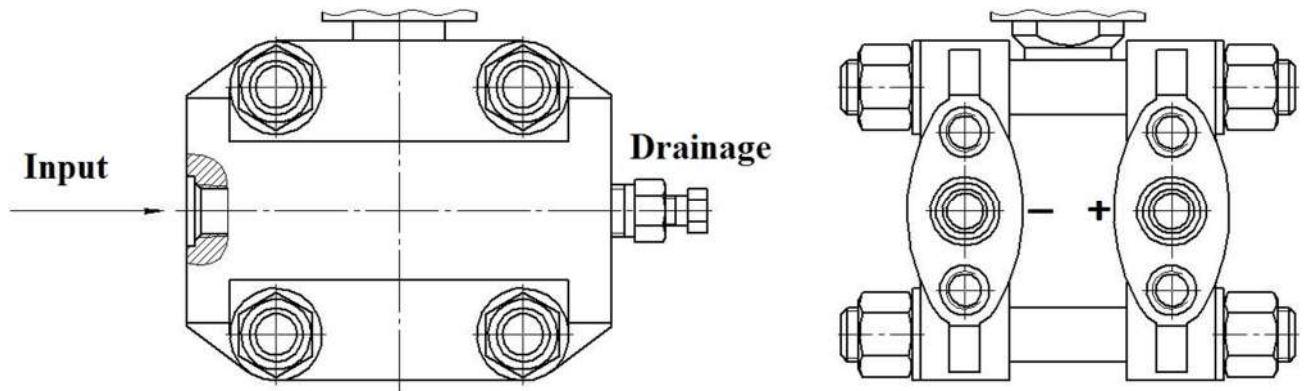

Figure 5 – Point marking of measurable parameter supply
1.4.4 Marks “+” and “-“ on sensor block housing mean point marking of measurable parameter supply. (fig. 5). Mark “+” corresponds to supply point of measurable pressure or greater one of measurable pressures in Agat-100MT-DD transmitters, and the mark “-“ indicates the chamber communicated with static pressure or chamber for supply of smaller one of measurable pressures. For Agat-100MT-DV sign “-“ corresponds to the place of supply of measurable pressure.